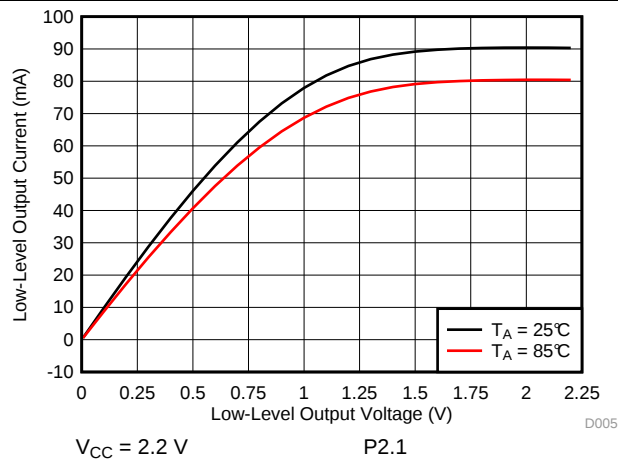
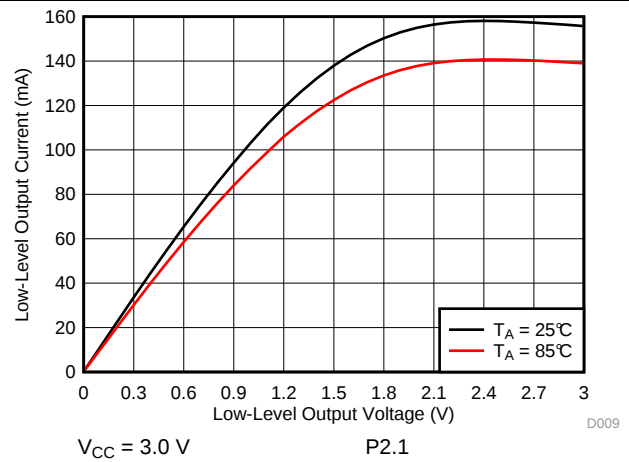

图 5-23. Low-Level Output Voltage vs Low-Level Output Current
图 5-24. Low-Level Output Voltage vs Low-Level Output Current
| V OL Low-level output voltage (see 图 5-23 and 图 5-24)      | I (OLmax) = 5 mA (1)                                           | 2.2 V           | V SS        | V SS + 0.25 | V    |